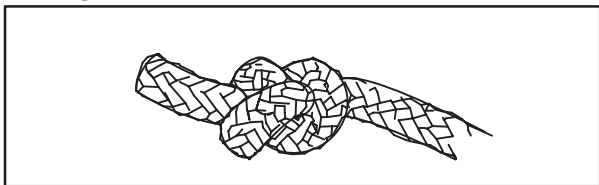

Fig. 52
2. Tie a figure eight knot at one end of rope, **Fig. 52**.